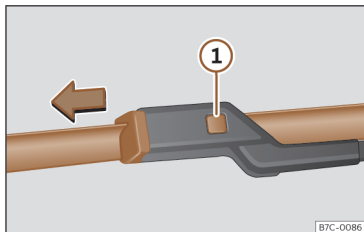

Fig. 163 Changing the windscreen wiper blades
- Press and hold release button >>> **Fig. 163** ① and pull gently on the wiper blade in the direction of the arrow.